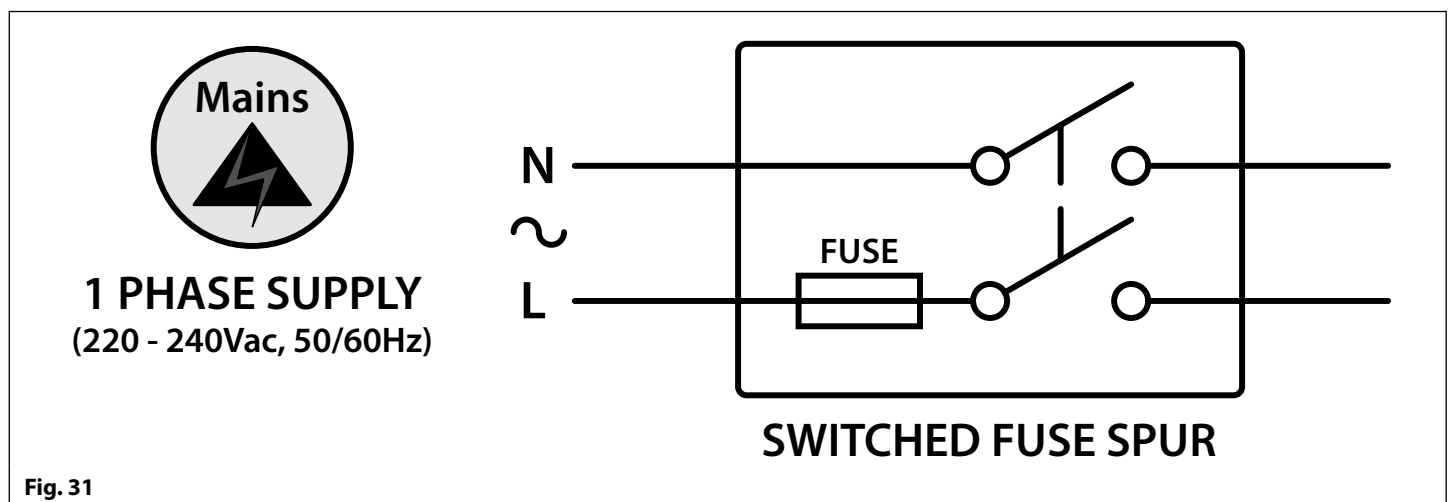

Fig. 31
- Connecting the system to the mains through an all-pole circuit breaker (refer to **Fig.31**) which shall have contact separation of at least 3mm in each pole and shall disconnect all poles simultaneously.